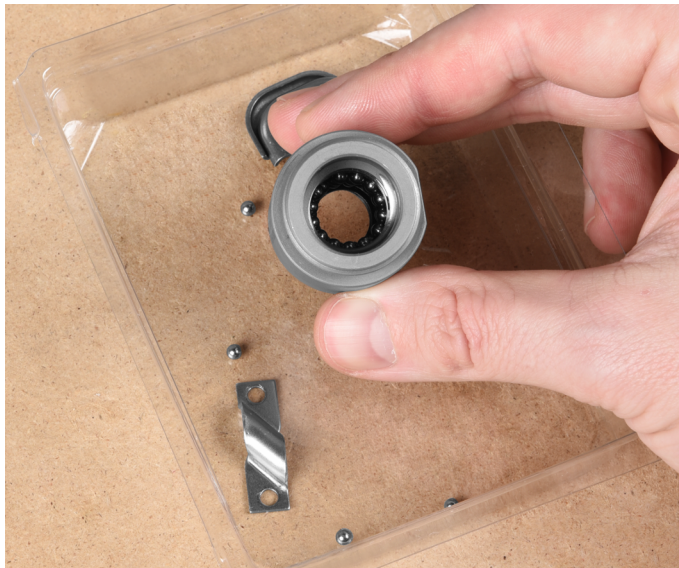

Figure 29: Removing the balls from the ball nut.
16. Remove a locking pin from the arbor on any side of the ball nut. Then, remove the arbor. This allows the balls in the ball nut to be removed, as shown in Figure 29.